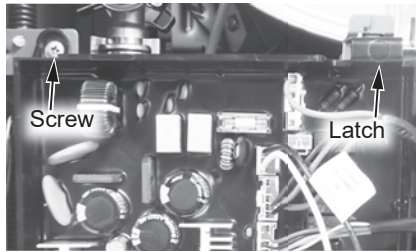

Figure 202 - Control board location
**11** Locate the two (2) screws at the bottom of the cabinet cover. Use a Phillips screwdriver to remove the screws. Place screws aside in a safe place for reinstallation.
**13** Locate the screw securing the control board panel as shown in Figure 202. Use a Phillips screwdriver to remove the screw and place it aside in a safe place for reinstallation.